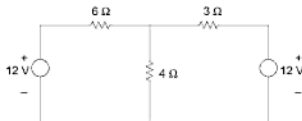

Fig. A1-56
- (b) Determine current in 4 ohm resistance in the following Fig. A1-56, using Norton's theorem.